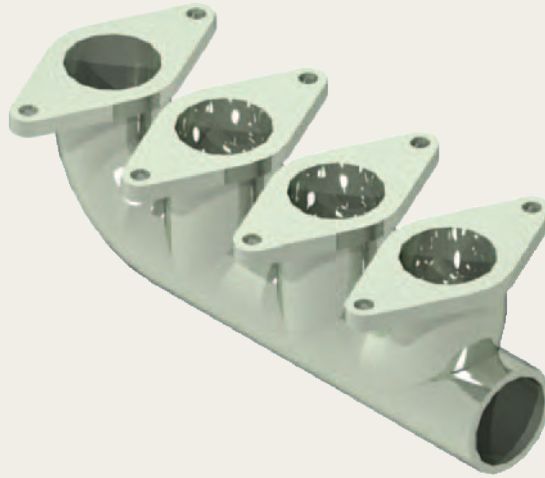
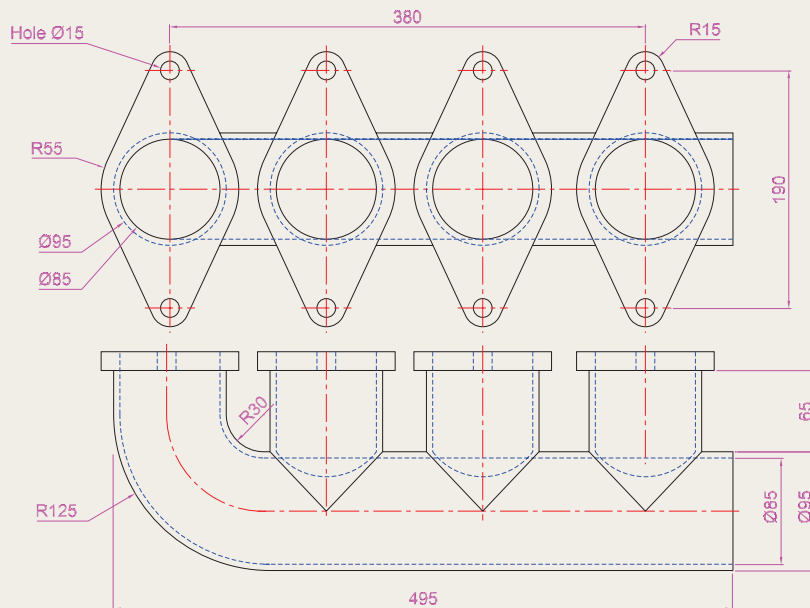

Fig. 19.17 Exercise 3 – isometric drawing
Fig. 19.18 Exercise 3
3. Construct a 3D model drawing to the details given in Fig. 19.18. Add suitable lighting and apply a material; then render as shown in Fig. 19.17.